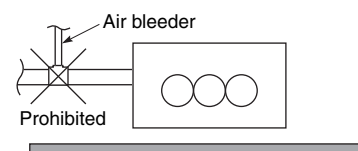

Fig. 3-93
- Do not install an air bleeder as this may cause water to spray from the drain pipe outlet. (Fig. 3-93)